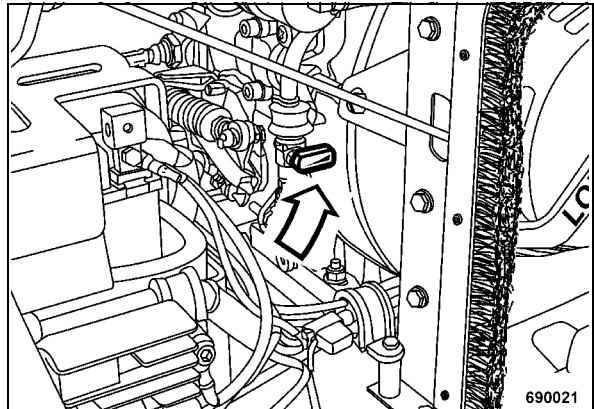

Fig. 50
- Close the drain cock after all fuel has run out (Fig. 50).